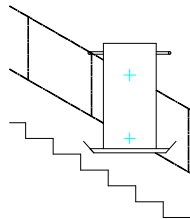
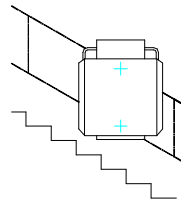

Fig. 3.1
Fig. 4.1
6. With the user evacuated, push down hard on the barriers (fig 3.1). **As the barriers fold down the platform will fold up (see fig. 4.1). The platform must now be locked with the padlock on the carriage.**